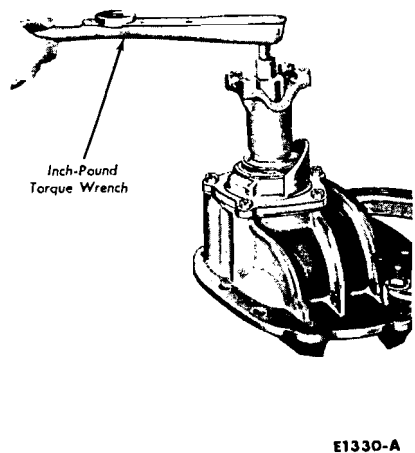

FIG. 50—Checking Pinion Bearing Pre-load
10. Check the pinion bearing preload as shown in Fig. 50. If an inch-pound torque wrench is not available tool 4209-C may be used in combination with tool 4209-C12. Correct preload will be obtained when the